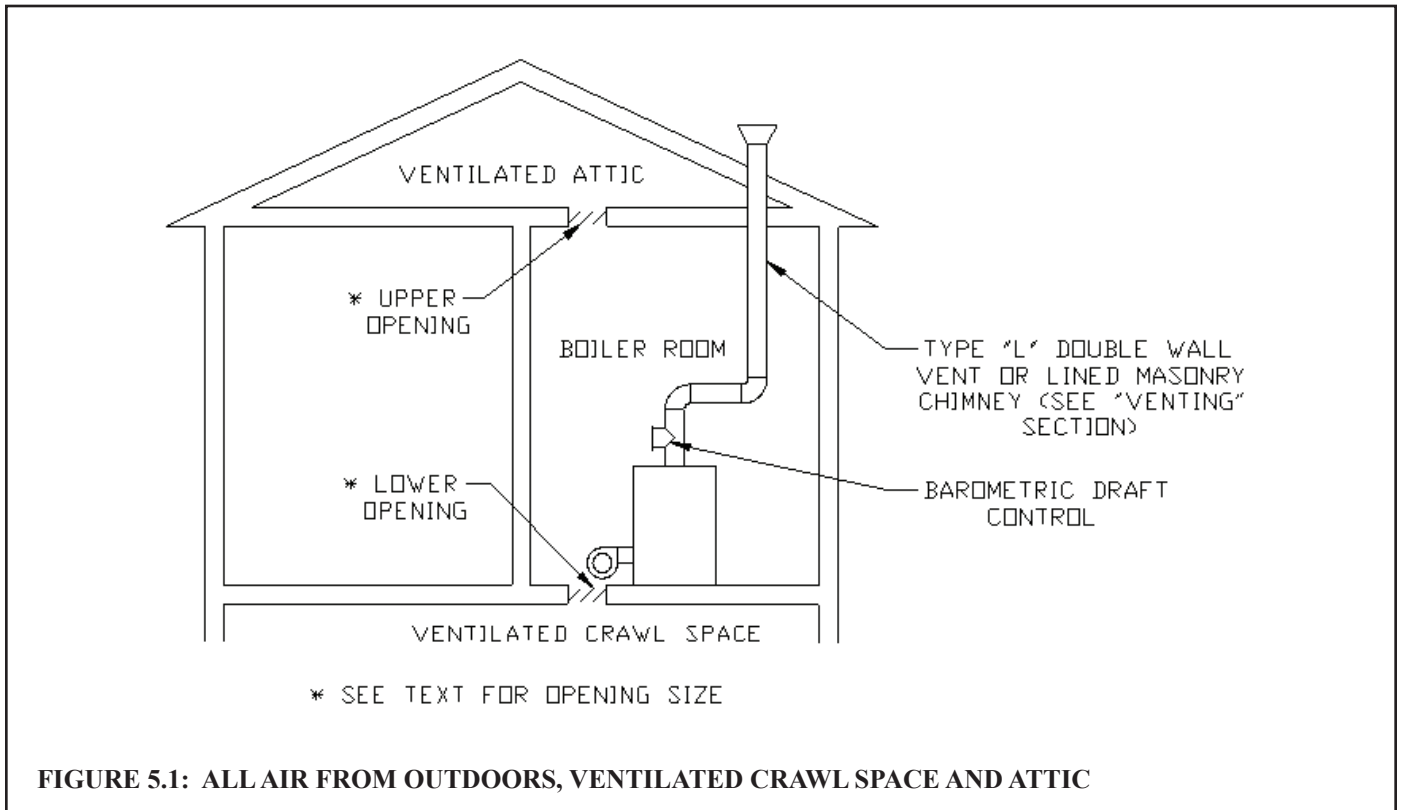
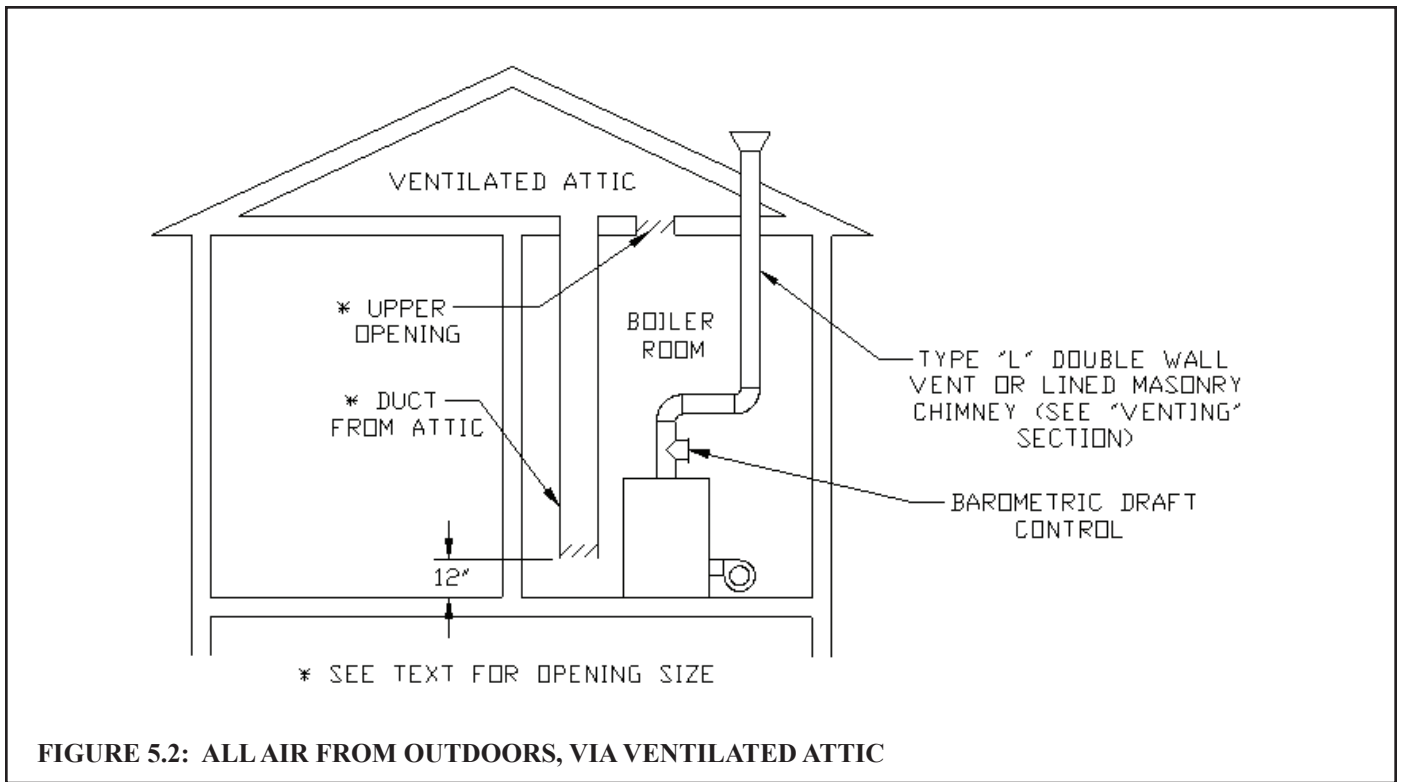
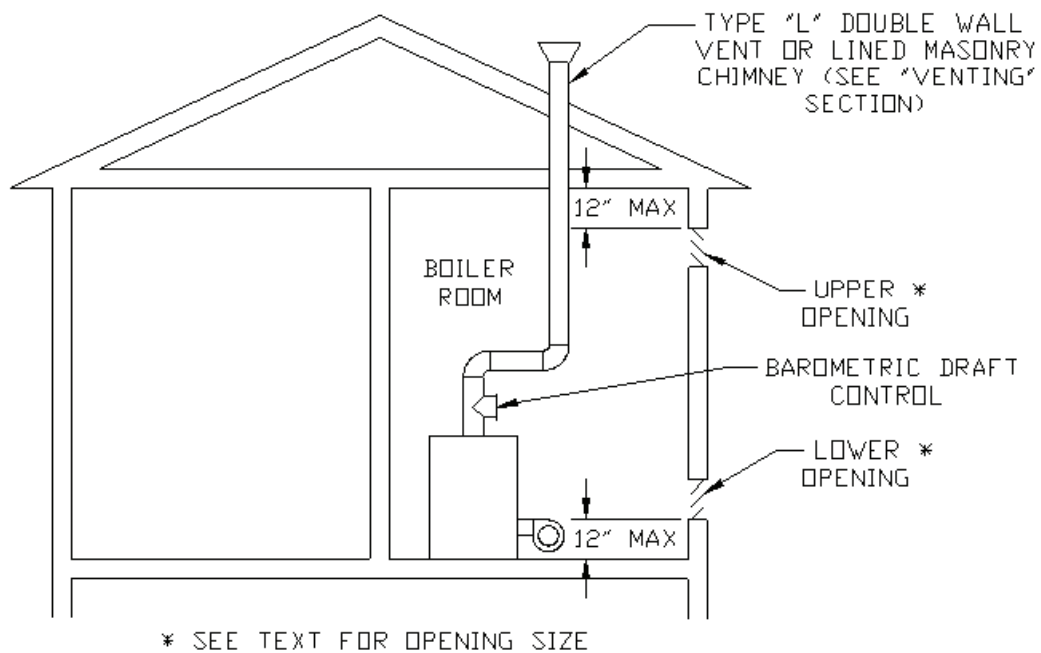

FIGURE 5.1: ALL AIR FROM OUTDOORS, VENTILATED CRAWL SPACE AND ATTIC
FIGURE 5.2: ALL AIR FROM OUTDOORS, VIA VENTILATED ATTIC
FIGURE 5.3: ALL AIR FROM OUTDOORS, USING OPENINGS INTO BOILER ROOM
- Vertical ducts or openings directly outdoors (Figure 5.1, Figure 5.2, and Figure 5.3) - Each opening must have a free cross sectional area of 1 square inch per 4000 BTU/hr of the total input of all fuel fired appliances in the boiler room but not less than 100 square inches. Minimum opening size is 3 inches.